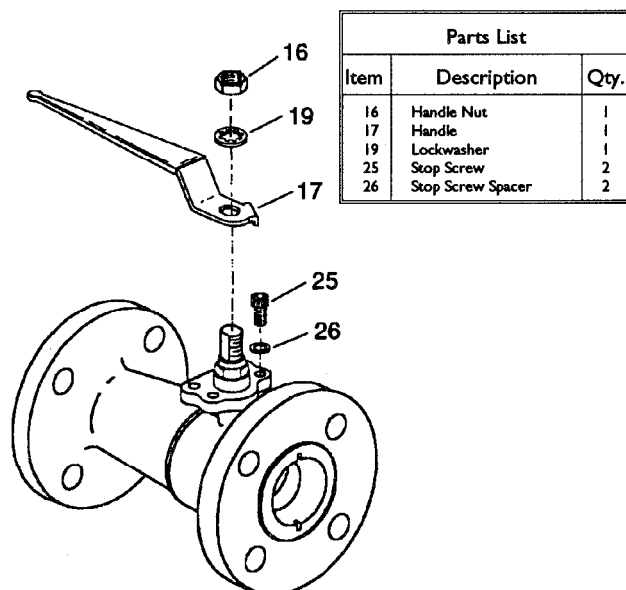

Figure 2
2. Remove the handle nut (16), lockwasher (19), handle (17), two stop screws (25), and two stop screw spacers (26). Some heat may be required to break the adhesive bond. These parts are no longer needed. See Figure 2.